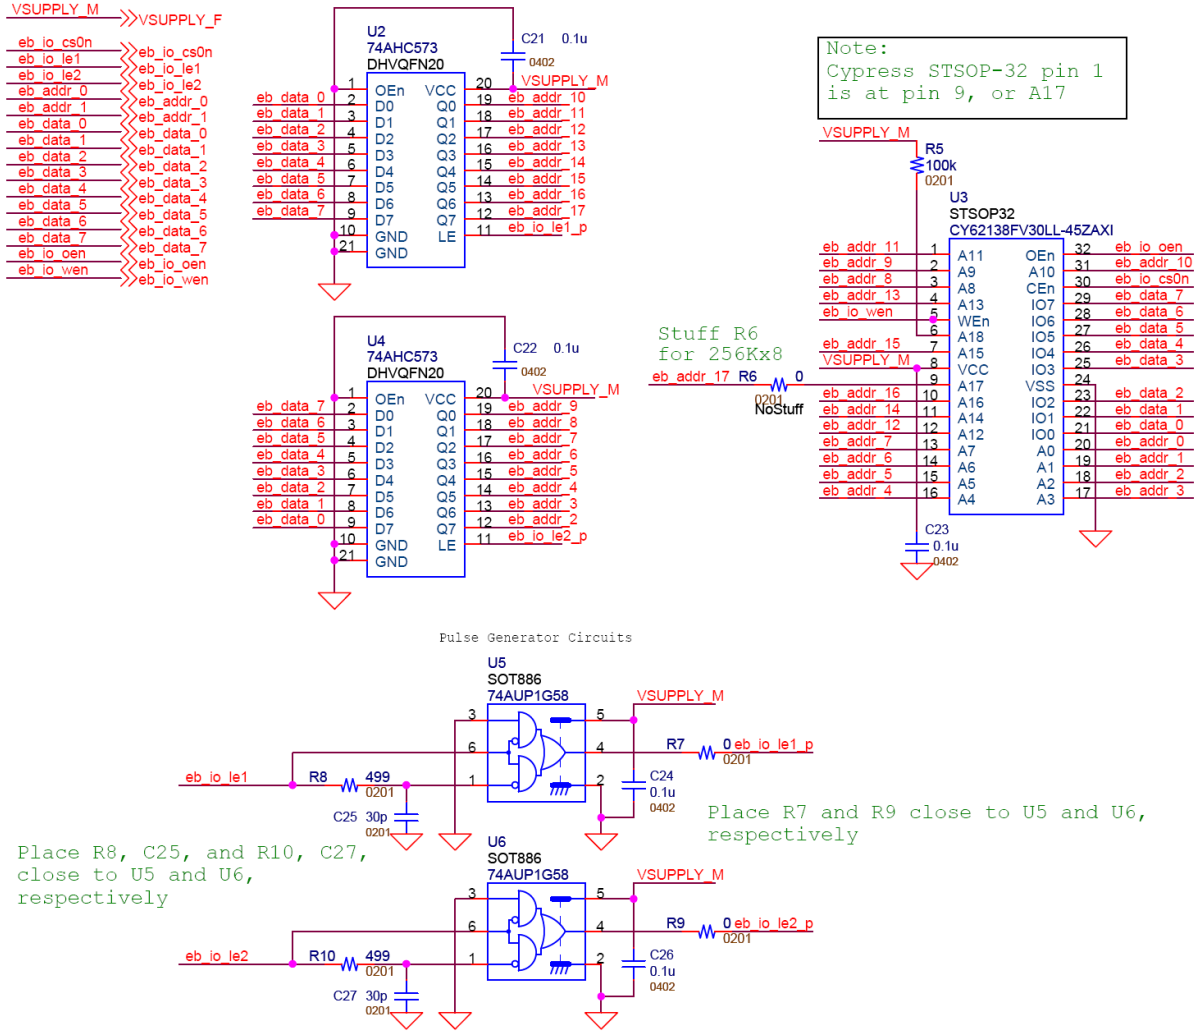

Figure 7 Eterna Extended Memory Example Schematic (page 2 of 2)
The schematic shown in Figure 6 and Figure 7 includes all the external connections and components necessary to add the external RAM. The schematic differs from the base schematic shown in Figure 1 in that:
- 3) The Memory, latches and pulse generators shown in Figure 7